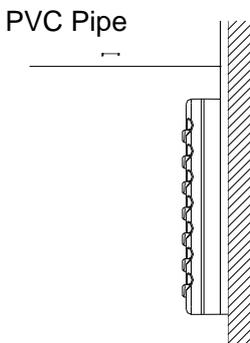
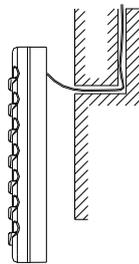

Fig 6 Surface Mounting of Cable
Fig 7 Concealed mounting of Cable
Connect the joints for swing flap motor lead wire (at 2 places) installed on the panel (Refer to Fig.7)
- 2、 If the communication line between the wire controller (85 × 85 × 16) and the indoor unit is surface-mounted, use 1# PVC pipe and make matching recess in the wall (refer to Figure 6); If concealed installation is adopted, 1# PVC pipe can be used (Refer to Figure 7).